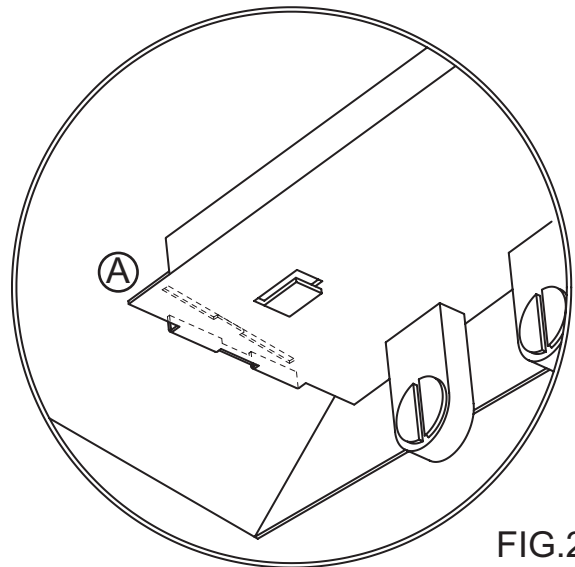

FIG.2
ALIGN ONE SIDE OF TABS (A) WITH SLOT AS SHOWN IN FIGURE 2. PUSH INTO SLOT UNTIL TAB LOCKS SOCKET PLATE INTO POSITION. REPEAT FOR OTHER SIDE OF SOCKET PLATE. TEST BY FIRMLY PULLING SOCKET PLATE UP-WARD.